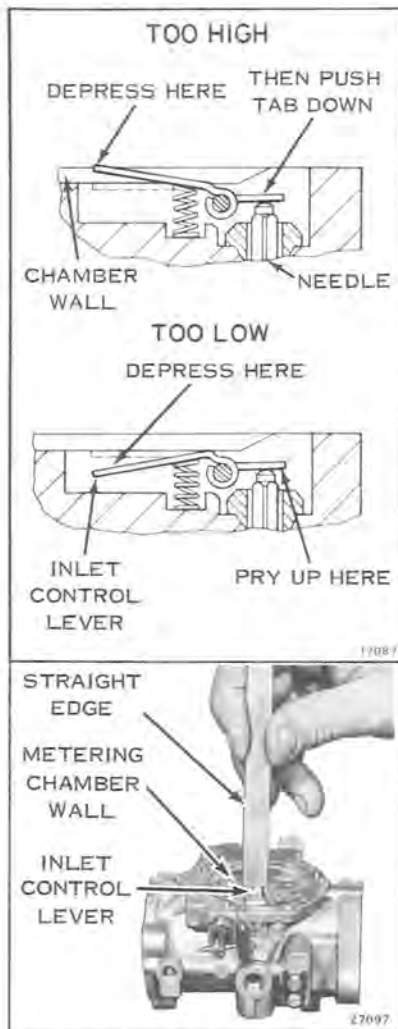

Figure 6-4
1. Adjust the inlet control lever so that the center of the lever that contacts the metering diaphragm is flush to the metering chamber wall. Check with straight edge. See Figure 6-4.